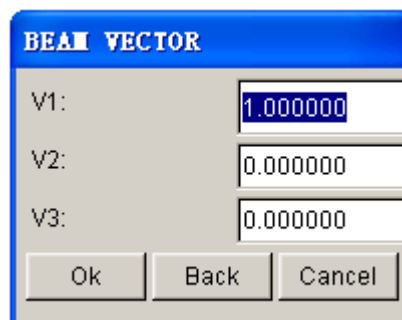

Figure 5.3.16 Beam Vector dialog box
- If the user selects **ORIENTATION VECTOR**, the dialog box as illustrated in Figure 5.3.16 is displayed. This window prompts the user to define the orientation vector.